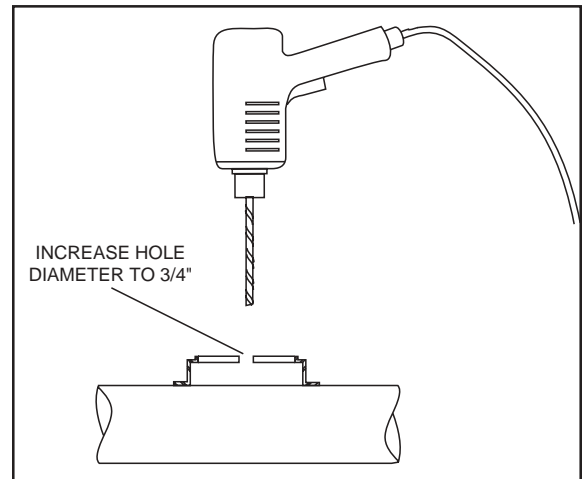

Figure 2
3. A 3/4" access hole must be made for the valve stem. Drill a 3/4" hole, or enlarge existing hole, in the center of the lower spring seat. Remove all burrs and sharp edges (Figure 2).